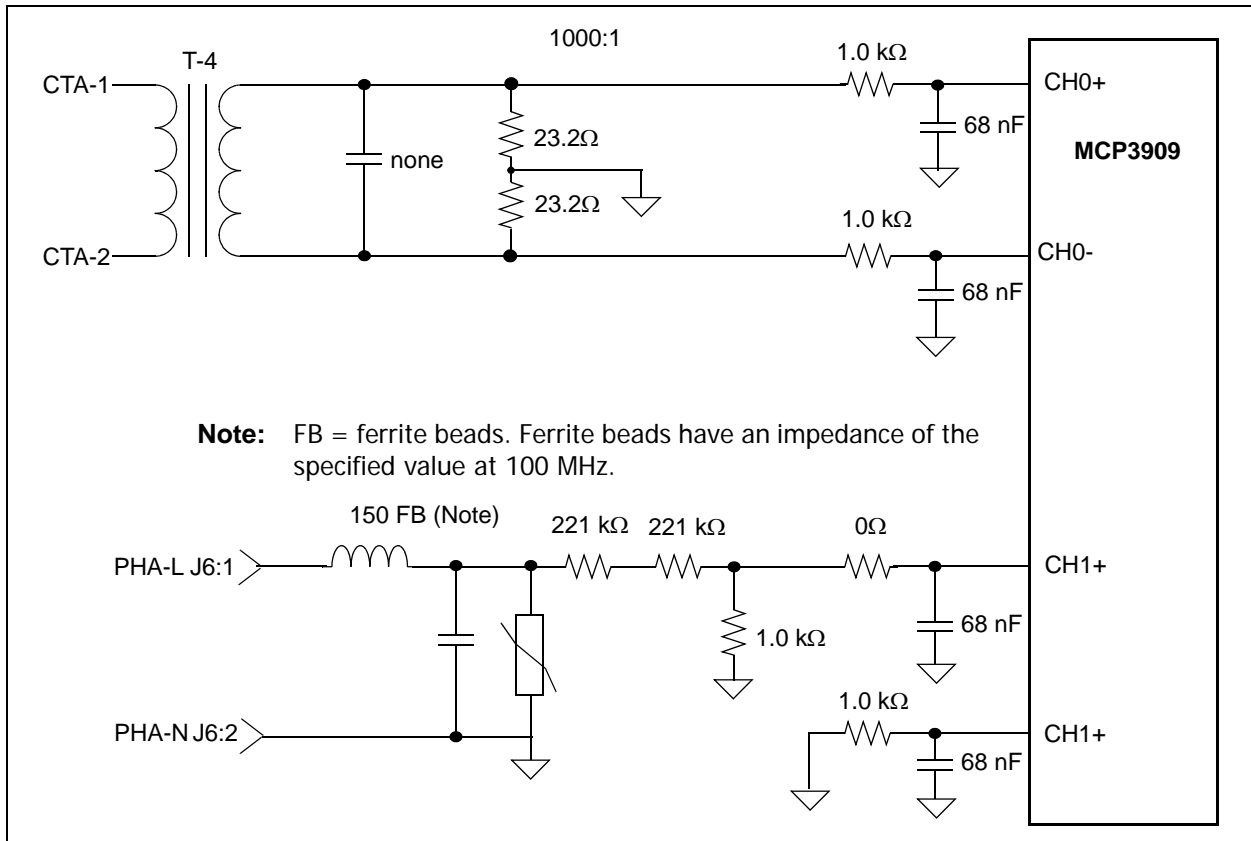

FIGURE 2-1: Analog Front End, Phase A Connections and Reference Designators shown.
3. **Section 2.1 “Input and Analog Front End”**: Added note for revision 2 hardware. Chasnged values of reistors in text and Figure 2-1.